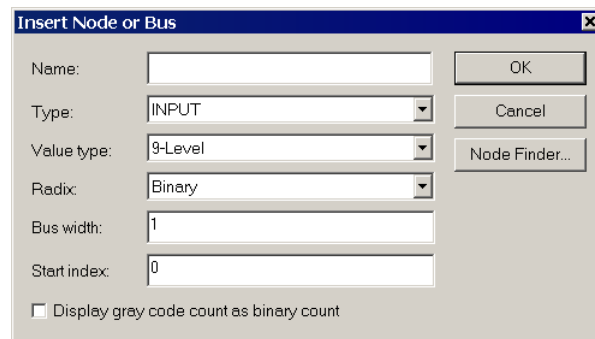
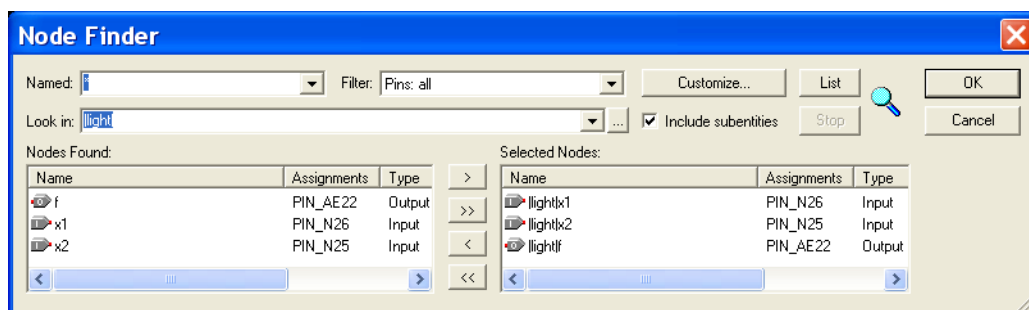
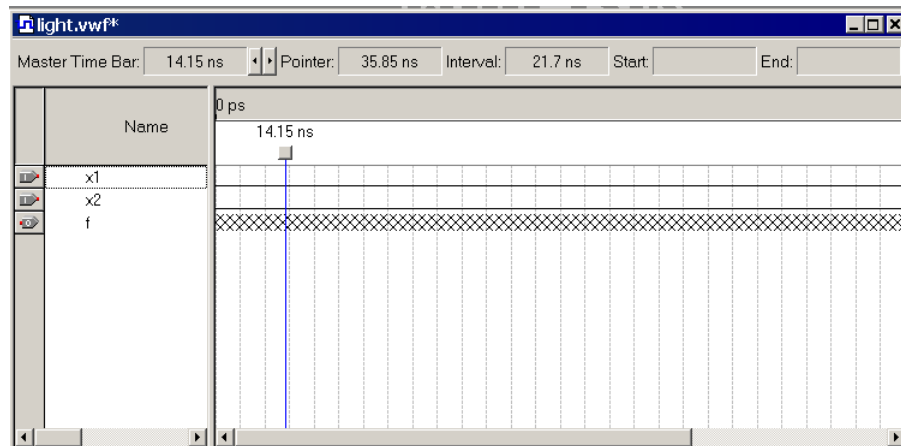

Figure 36. The Insert Node or Bus dialogue.
Figure 37. Selecting nodes to insert into the Waveform Editor.
Figure 38. The nodes needed for simulation.
- Next, we want to include the input and output nodes of the circuit to be simulated. Click **Edit > Insert Node or Bus** to open the window in Figure 36. It is possible to type the name of a signal (pin) into the Name box, but it is easier to click on the button labeled **Node Finder** to open the window in Figure 37. The Node Finder utility has a filter used to indicate what type of nodes are to be found. Since we are interested in input and output pins, set the filter to **Pins: all**. Click the **List** button to find the input and output nodes as indicated on the left side of the figure.
Click on the $x1$ signal in the Nodes Found box in Figure 37, and then click the $>$ sign to add it to the Selected Nodes box on the right side of the figure. Do the same for $x2$ and f . Click **OK** to close the Node Finder window, and then click **OK** in the window of Figure 36. This leaves a fully displayed Waveform Editor window, as shown in Figure 38. If you did not select the nodes in the same order as displayed in Figure 38, it is possible to rearrange them. To move a waveform up or down in the Waveform Editor window, click on the node name (in the Name column) and release the mouse button. The waveform is now highlighted to show the selection. Click again on the waveform and drag it up or down in the Waveform Editor.